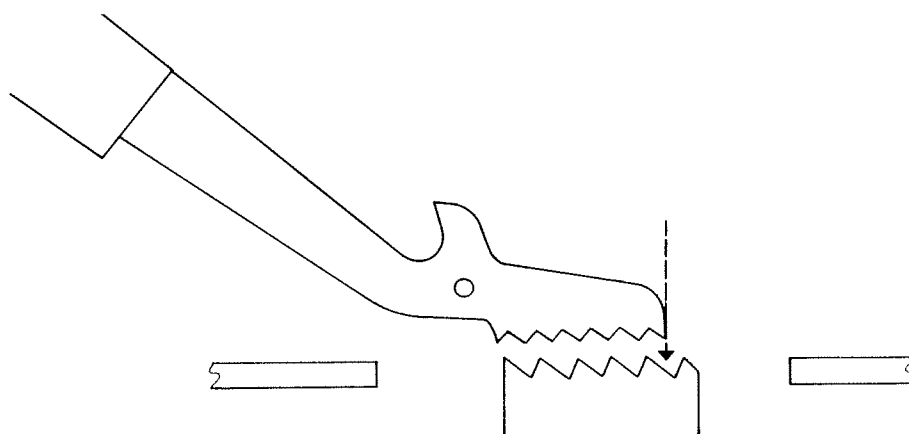

Fig. 7
The front edge of the top feed foot must be between the first and second tooth point of the middle tooth rows of the feed dog (Fig. 7).
- Carry out a visual check (Fig. 7).